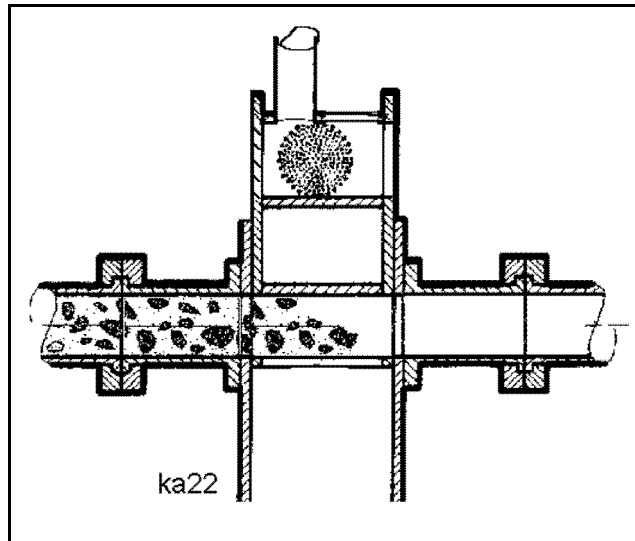

Fig. 463
- Place a soft cleaning ball into the chamber as described above (**Fig. 463**).